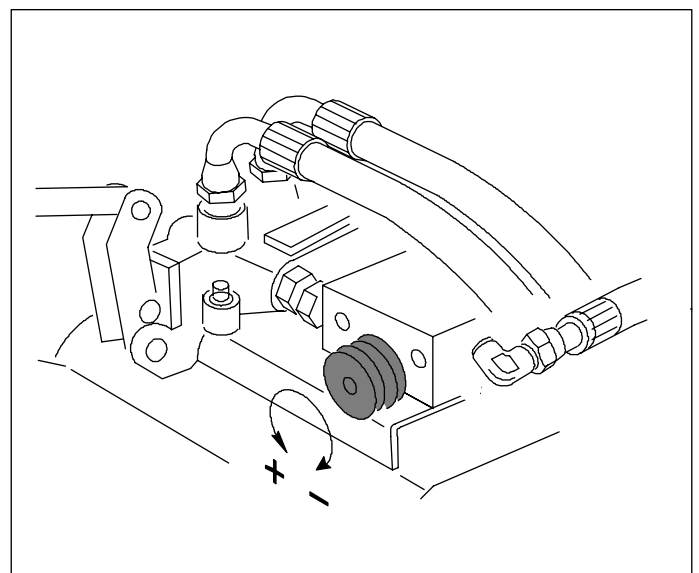

Fig. 8. Feeder reel speed settings
- Using the flow control valve, set the revolution speed of the feeder reel to correspond with the cutting speed of the blades. By turning the knob anticlockwise, the revolution speed of the feeder reel grows, correspondingly by turning it clockwise, the revolution speed will diminish. See fig 8.